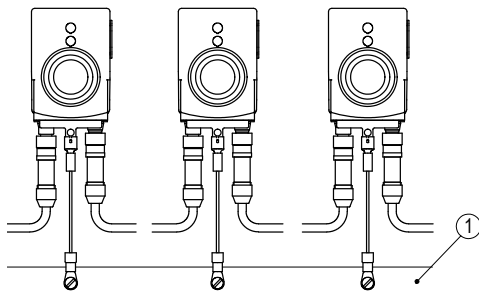

Fig. 7: Ground bar
For protection against interference, the screens of the signal lines and the power line must be connected on both sides. Potential differences cause inadmissible currents on the screen. Install the ground connection ③ onto the protective ground conductor potential between the plug connectors (see Fig. 6). Use 6.3 mm flat connectors or cable lug with short strands 2.5 ... 4 mm² (not in the scope of delivery). For multiple position indicators we recommend connecting the grounding to a ground bar ① (see Fig. 7).